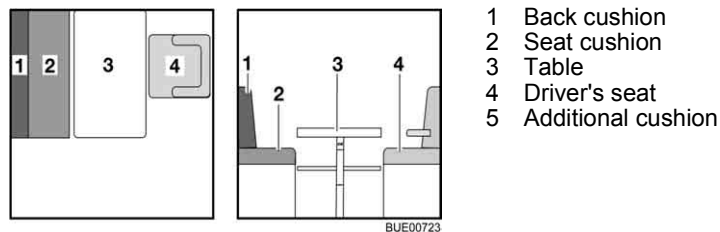

Fig. 75 Prior to conversion
- Turn the driver's seat (Fig. 75,4) and push it all the way forward.
- Convert the table (Fig. 75,3) to a bed foundation (see section 6.12).
- Lay the back cushion (Fig. 75,1) aside.